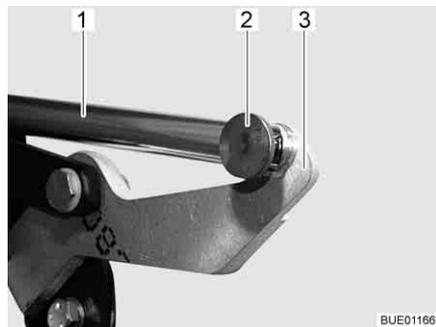

Fig. 80 Drive
- Remove the connection (e.g. splint and pin) (Fig. 80,2) between the push rod (Fig. 80,1) and lever (Fig. 80,3).